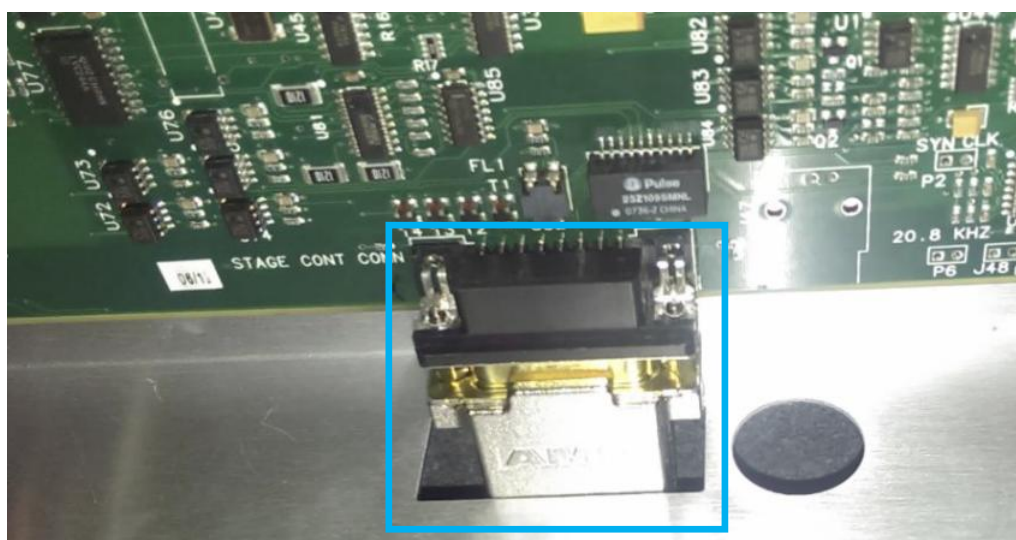

Figure 27 Trigger Board IO Cable connection
11. Connect the CABLE, TRIGGER IO, DBN 15 (P/N, 4XASC-A039) cable into Trigger Board as Figure 27